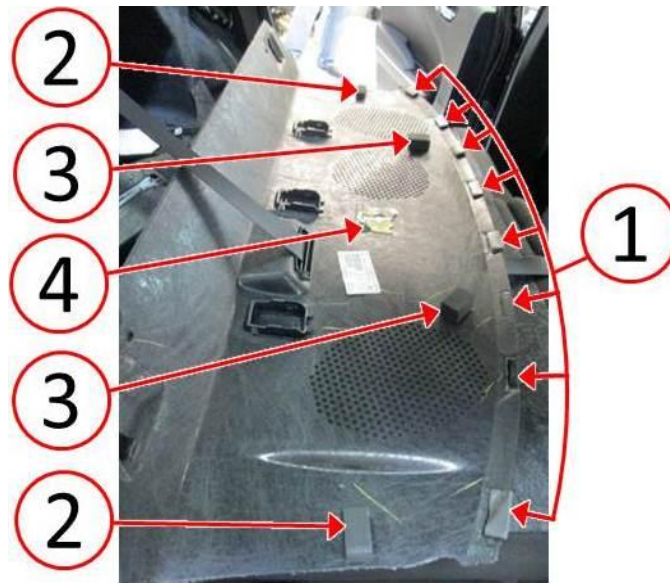

Fig. 2 Rear Shelf Panel Underside
9. Inspect the underside of the rear shelf for two 45 x 25 mm foam blocks (2) on outboard edges, two 45 x 30 mm foam blocks (3) in the center, and one retaining clip (4) in the center of the shelf (Fig. 2). If any of these items are missing, replace the rear shelf panel with a NEW shelf panel.
10. Remove the eight 50 x 20 mm foam pieces (1) along the rear edge of the shelf panel. For SRT vehicles built prior to January 1, 2012 the eight foam pieces (1) will not be present (Fig. 2).